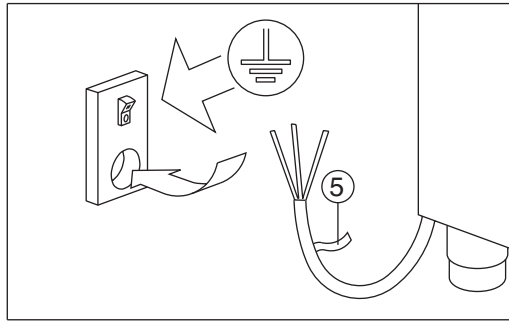

Fig.8
- All the chillers are supplied to no electrical plug (Figure 8), for connection to carefully observe what described on the label on the electrical connection cable (5)